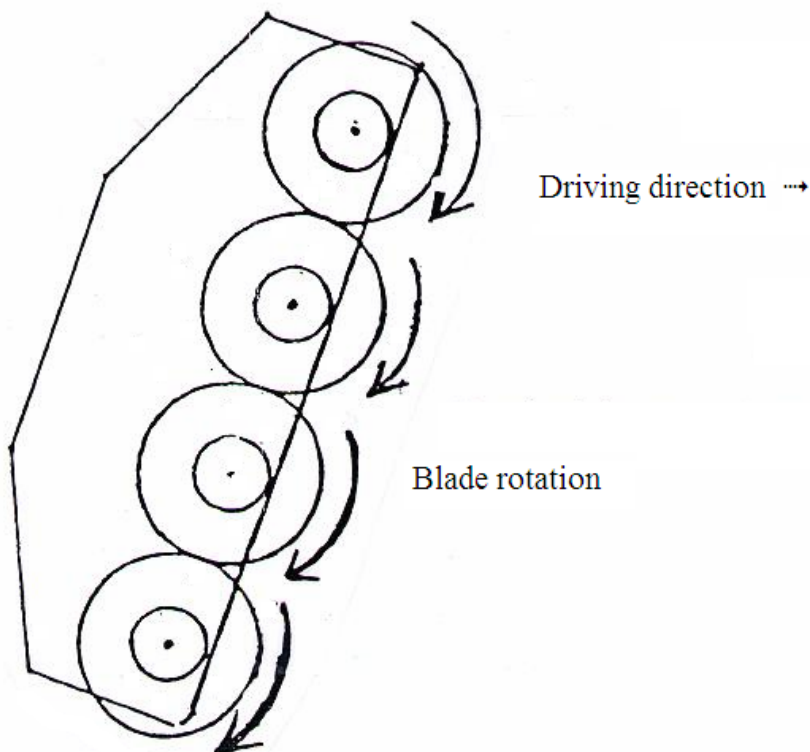

Fig. 1 Blade rotation
- The blades **MUST** be mounted in a downward cut rotation. Mount the blades so they are cutting down (Must run same way as the tractor) (Fig. 1). Bolt 81,5 Nm (kvalitet 10,9).